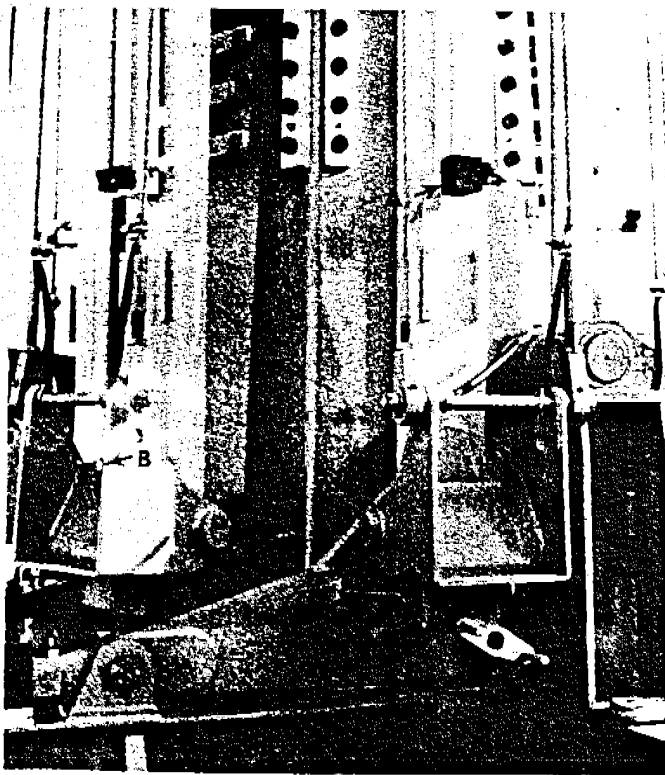

Fig. 42
- a. Note the position of the arms when they are folded against the tower. The arms with the rubber bumpers (a) go to the sides and the arms with the cable tightening screws (b) are to the rear (Fig. 42)